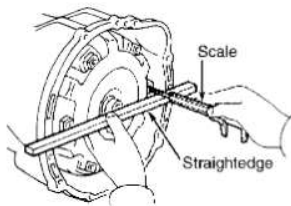

Fig. 1: Measuring Torque Converter Depth
1) Apply multipurpose grease to center hub of torque converter. Install one guide pin in threaded mounting pad of torque converter to align torque converter. Distance from torque converter drive lug to engine mating surface of transaxle should be at least .51" (13 mm). See Fig. 1.